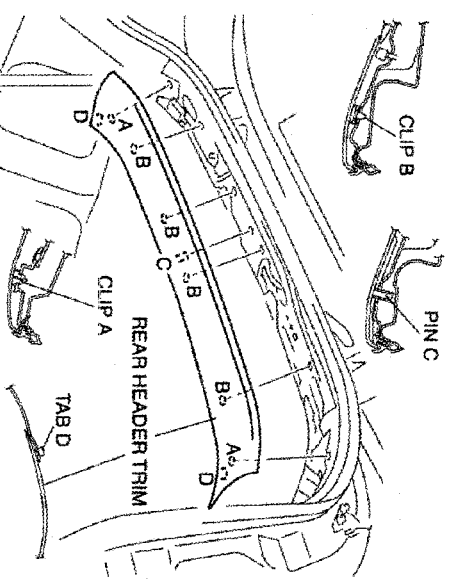

FIGURE 40
- 1.) PULL THE REAR HEADER TRIM AND DETACH CLIPS A AND B, PIN C, AND TABS D. (SEE FIGURE 40)
- 2.) REMOVE THE REAR HEADER TRIM. (SEE FIGURE 40)